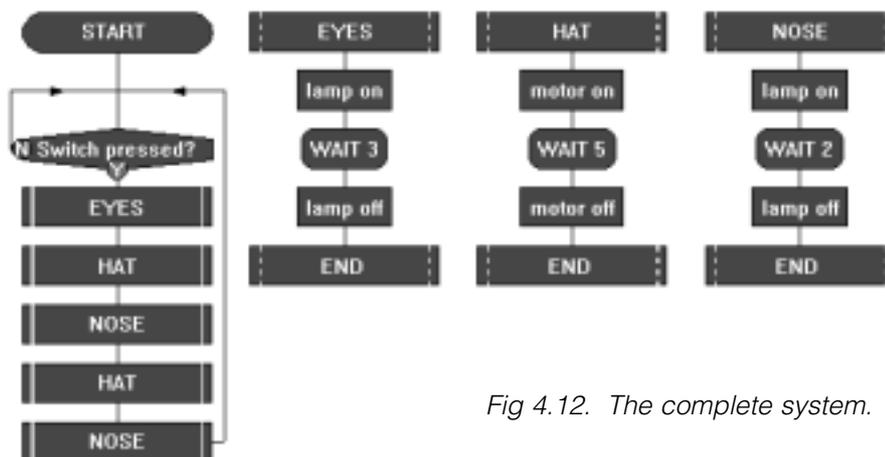

Fig 4.12. The complete system.
2. A main routine is then written to call the macros into use in the required sequence whenever a switch is pressed (Fig 4.12).